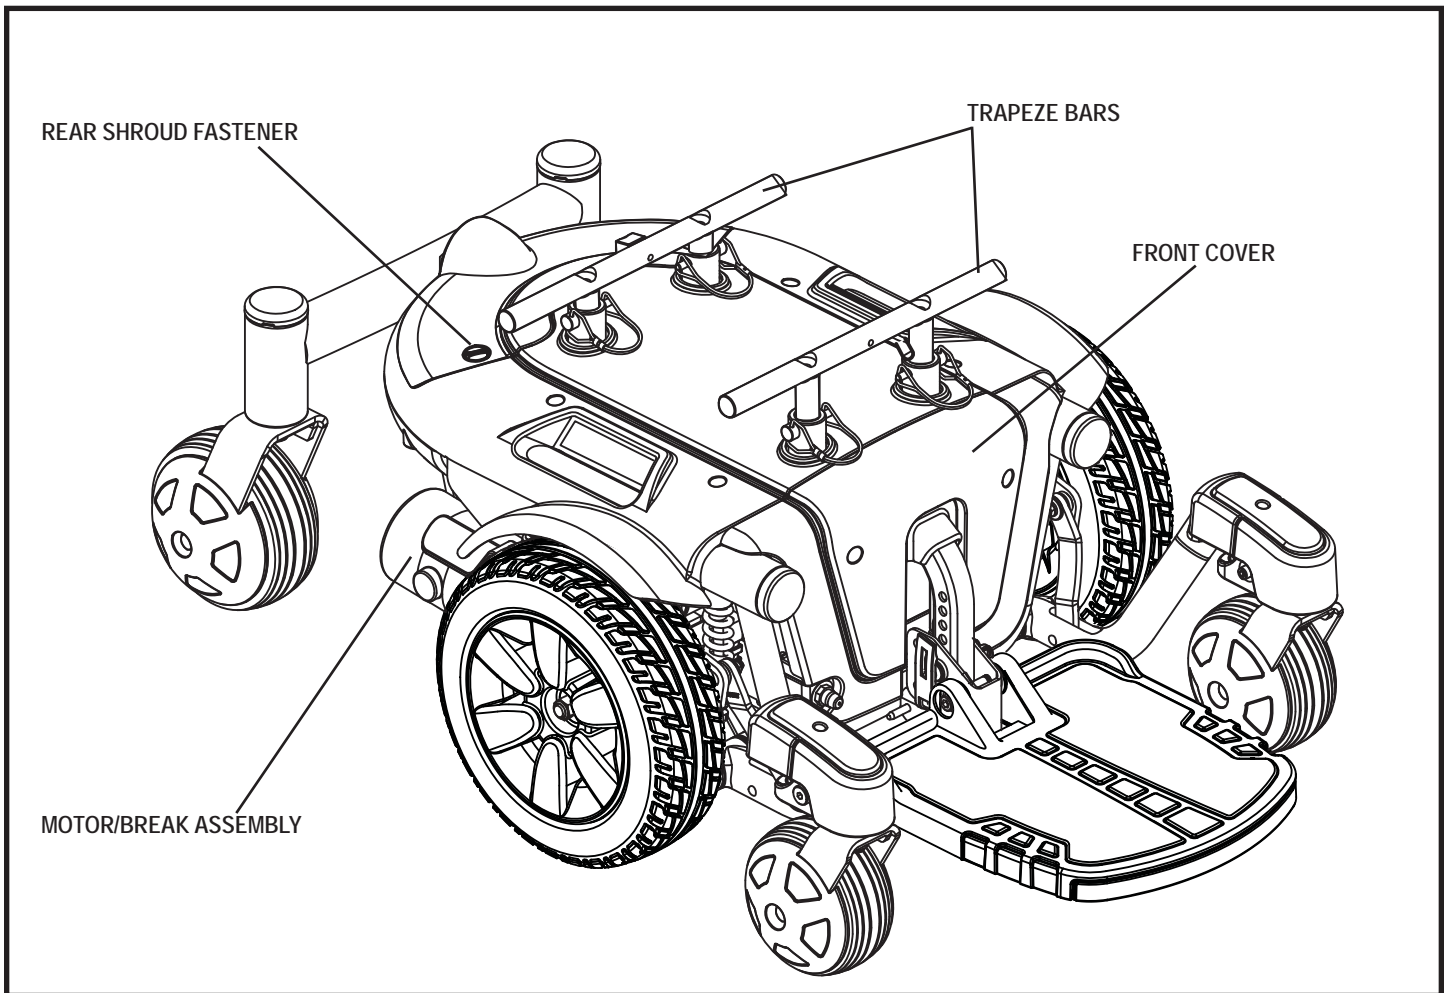

Figure 2. The J6 Power Base
5. Loosen the rear shroud fasteners and remove the rear shroud. **See figure 2.**
7. Reinstall the rear shroud and tighten the rear shroud fasteners. **See figure 2.**
3. Loosen the rear shroud fasteners and remove the rear shroud. **See figure 2.**